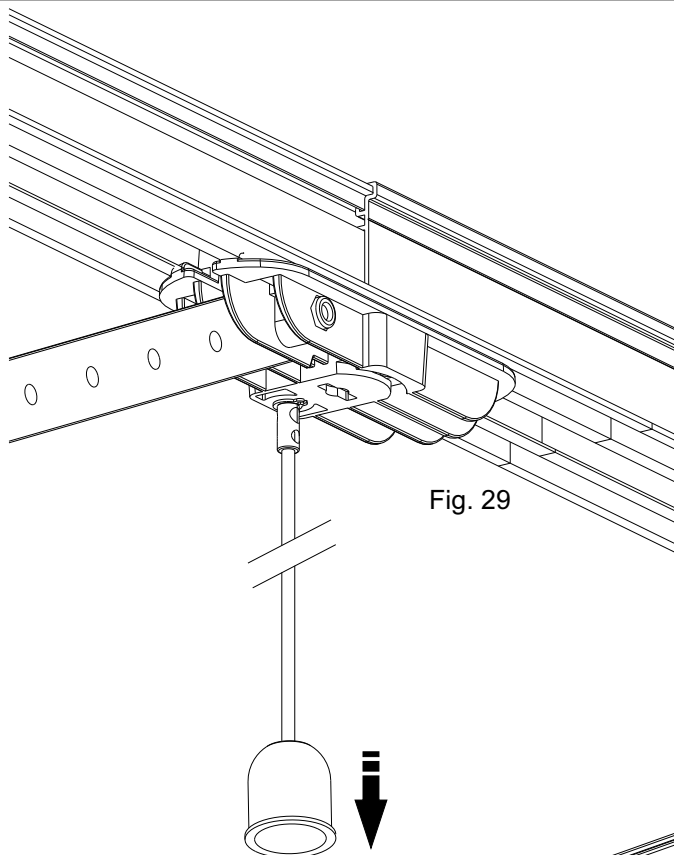

Fig. 29
- Pull the release knob and open the door manually (Fig. 29).